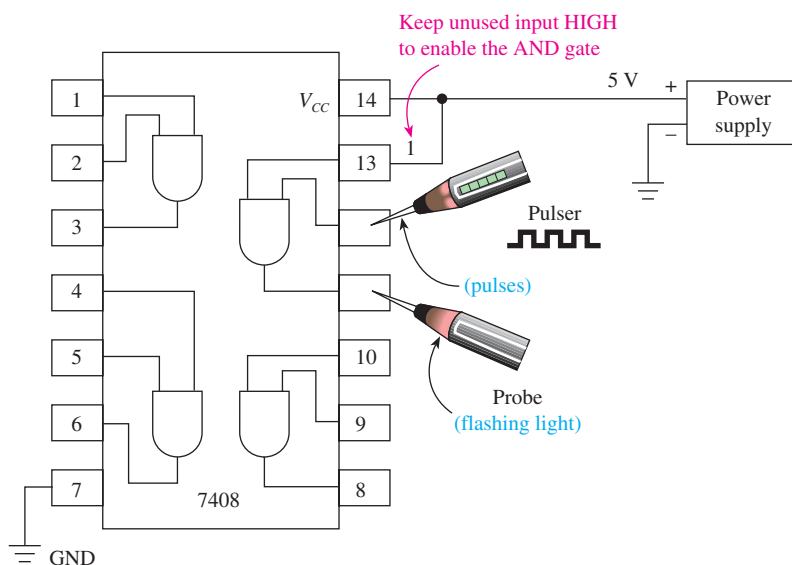

Figure 3–24 Connections for troubleshooting one gate of a quad AND IC.
Solution: First you apply power to V_{CC} (pin 14) and GND (pin 7). Next you want to check each AND gate with the pulser/probe. Because it takes a HIGH (1) on *both* inputs to an AND gate to make the output go HIGH, if we put a HIGH (+5 V) on one input and pulse the other, we would expect to get pulses at the output of the gate. Figure 3–24 shows the connections to test one of the gates of a quad AND IC. When the pulser is put on pin 12, the light in the end of the probe flashes at the same speed as the pulser, indicating that the AND gate is passing the pulses through the gate (similar in operation to the clock enable circuit of Figure 3–16).